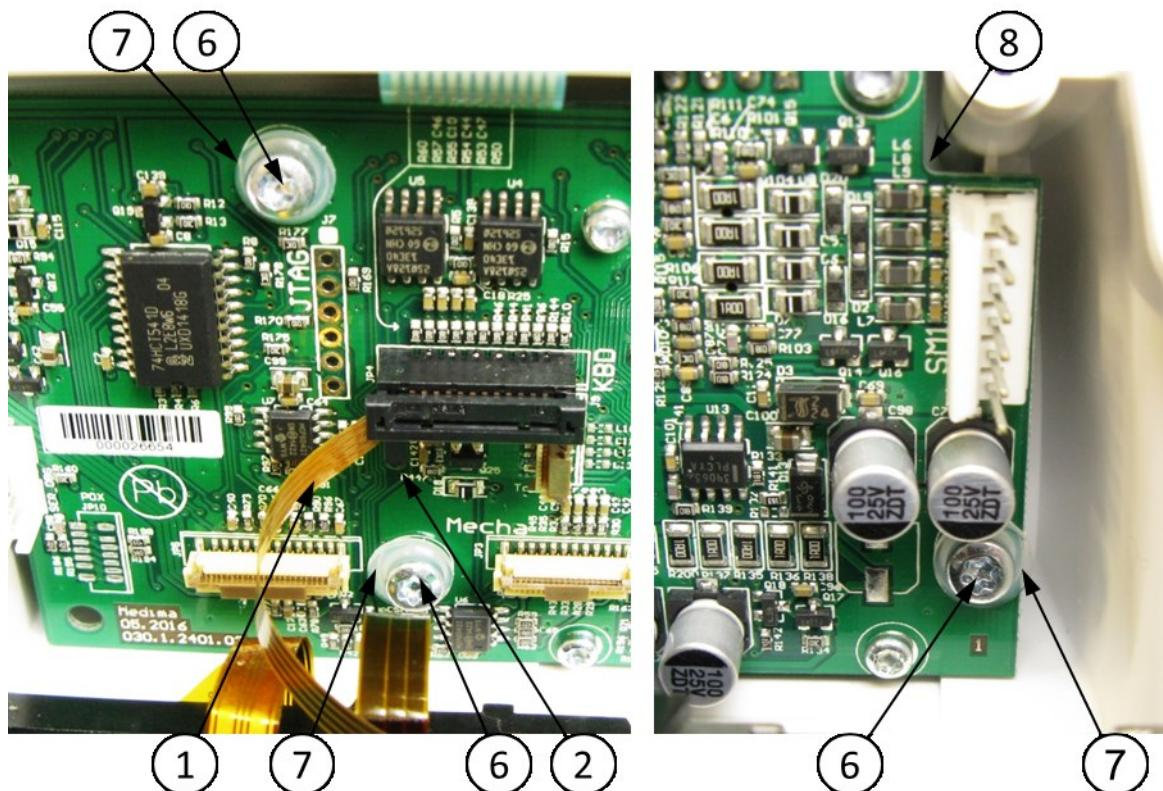

Fig. 40 Fixing the CPU board set to the Front case
3. Using the **TB-1** screwdriver unscrew three **3x8** screws for plastic (6) with the **3,2x8x0,8** polyamide washers (7) (see Fig. 40).
1. Drag the **Touch-screen ribbon (1)** through the **Hole (2)** in the **CPU board set (3)** as shown in **Fig. 40**.
3. Using the **TA-41** torque screwdriver with **TA-42** bit screw in three **3x8 screws for plastics (6)** with **3,2x8x0,8 polyamide washers (7)** as shown in **Fig. 40**.
4. Connect the **Touch-screen ribbon (1)** and **Keyboard ribbon (2)** as shown in **Fig. 40**.